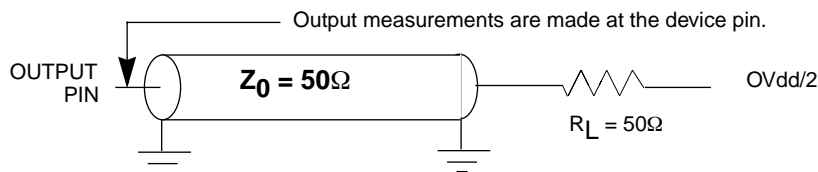

Figure 10. AC Test Load for the MPC107
- 3 All output timings assume a purely resistive 50 ohm load (See Figure 10). Output timings are measured at the pin; time-of-flight delays must be added for trace lengths, vias, and connectors in the system.
- 5 PCI hold times can be varied; see Section 1.4.3.3.1, “PCI Signal Output Hold Timing,” for information on programmable PCI output hold times. The values shown for item 13a are for PCI compliance.
Figure 10 shows the AC Test Load for the MPC107.